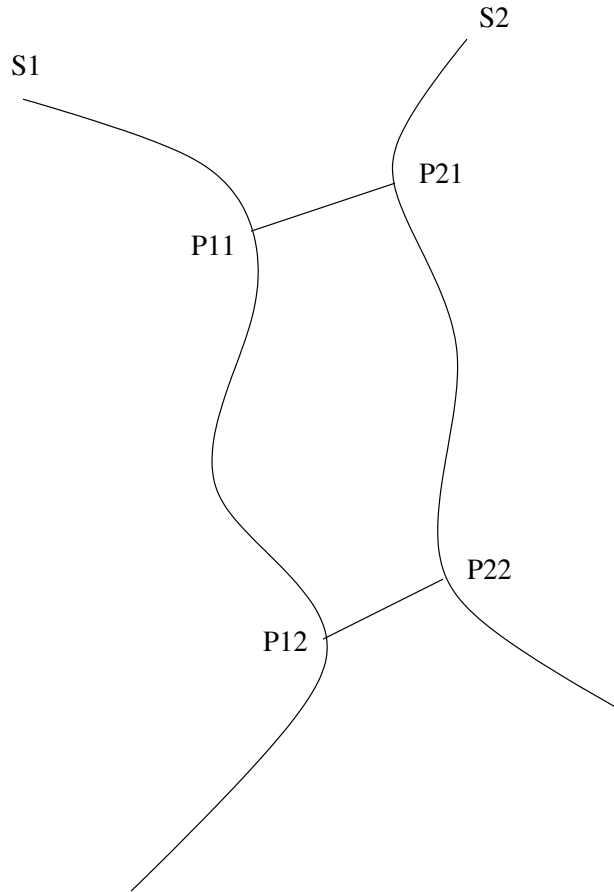

Figure 2: Multiple interaction.
In a more general case, for each part of two objects nearer than a given level, we need a couple of points, see Fig 2.
- Get a couple of point for all interactive zones (see Fig. 2).